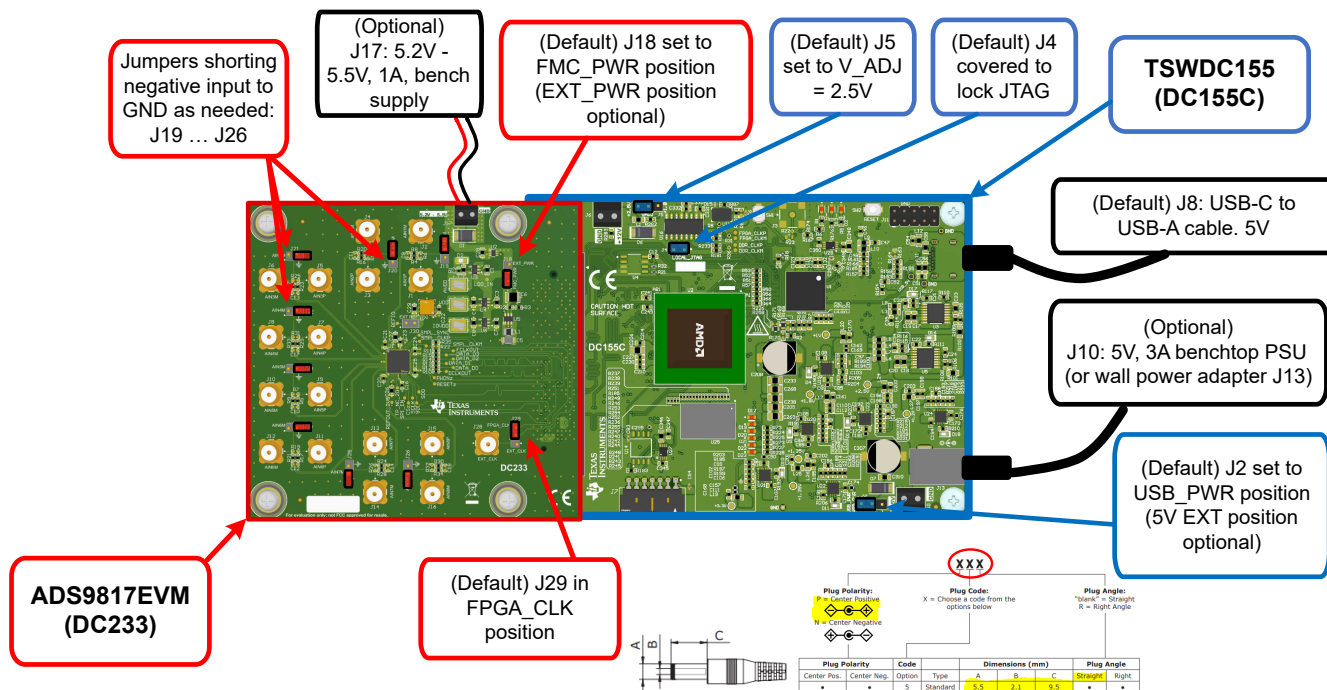

Figure 2-1. Connecting the Hardware
1. Review the default jumper settings in Figure 2-1 below as well as the power guidelines in Section 5.1.